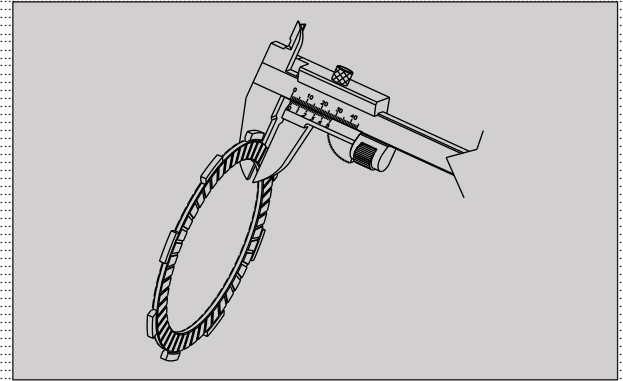

Fig. 3.15
- Inspect plate clutch drive thickness using vernier caliper. (Fig. 3.15).